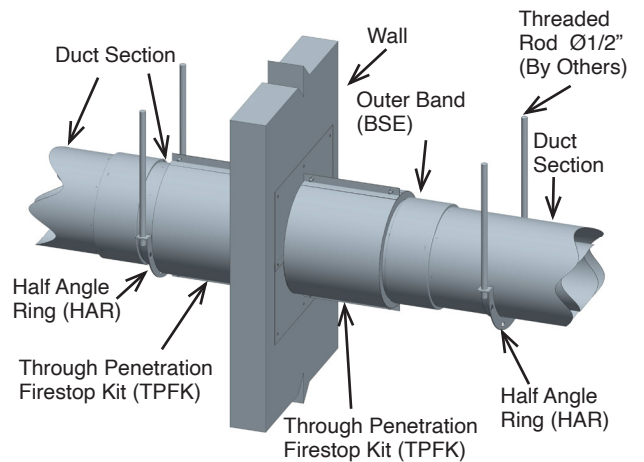
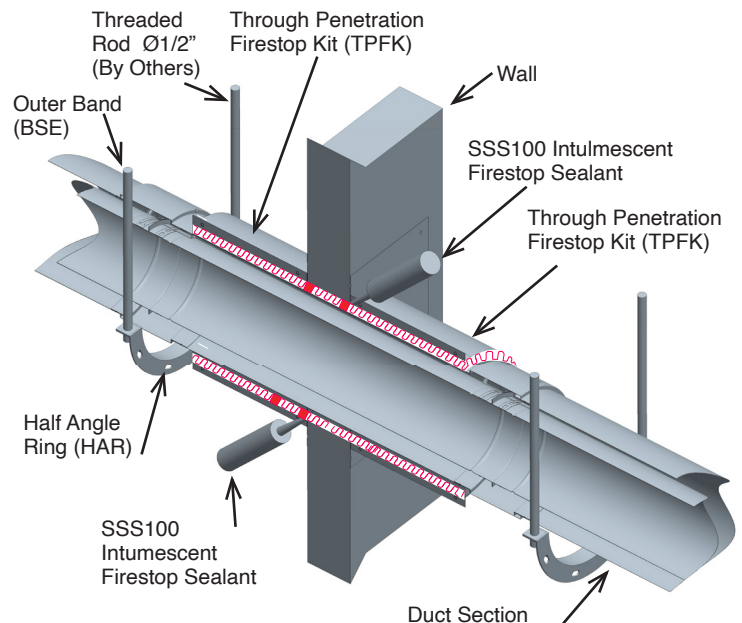

Figure 108: Supports for duct through fire-rated wall (CIX3Z only)
Figure 111: TPFK Assembled Through a fire-rated Wall (CIX3Z only)
Ducts that penetrate a fire-resistance wall (up to 2hr fire-rated) have to be supported on both side of the wall. It can either be supported by bracing a HAR, a AP or APL. See Figure 108.
- For Wall Penetration, use two TPFK's. See Figure 111 and Figure 108.
NOTE: The cover plates, wrap insulation and split closure bands are installed on the top surface of a floor penetration and on both surfaces of a wall penetration. See Figure 111 for the penetration through a wall.